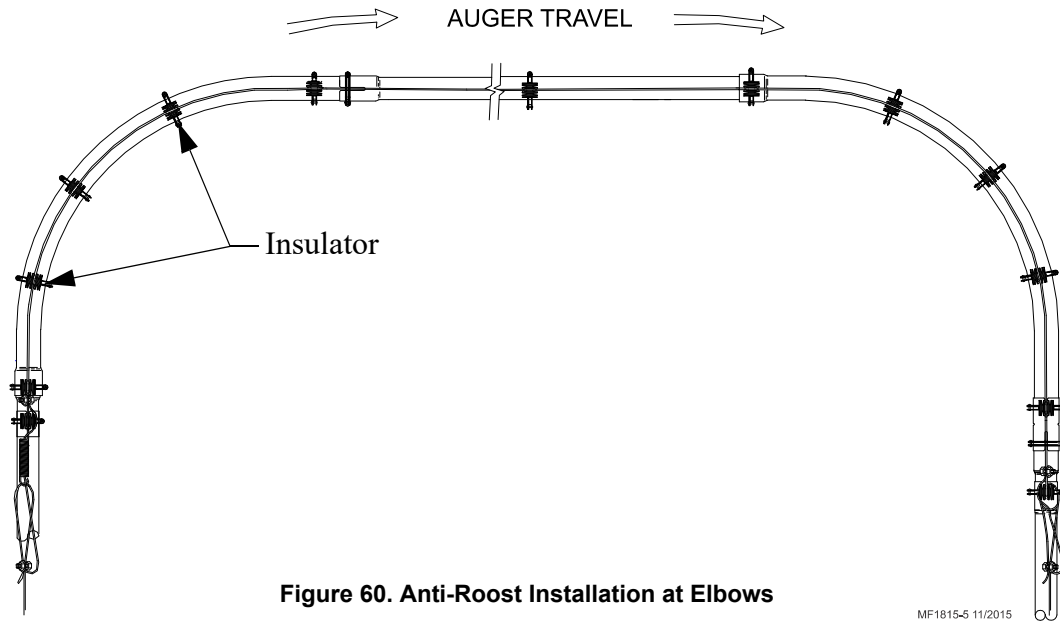

Figure 60. Anti-Roost Installation at Elbows
11. Anti-Roost clamps must be installed around the elbows, see **Figure 60**.
The anti-roost wire is provided to be used around the elbows. Snap it down in the center groove of the insulators on the elbows, see **Figure 60**.